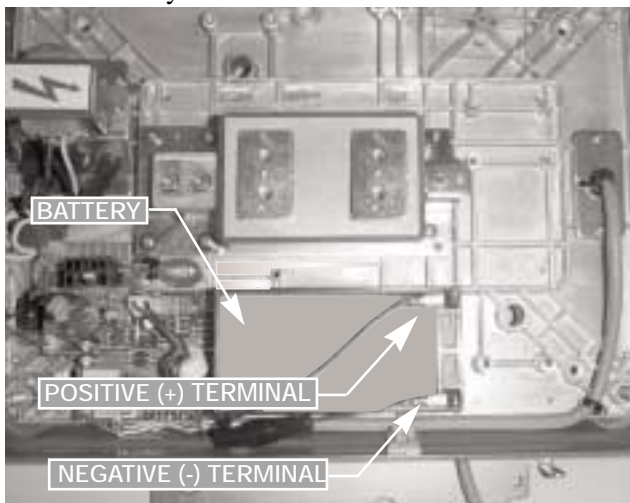

Figure 2-8. Battery Installation
6. Disconnect black (–) and red (+) electrical leads from battery (see Figure 2-8). Remove existing DC battery pack.